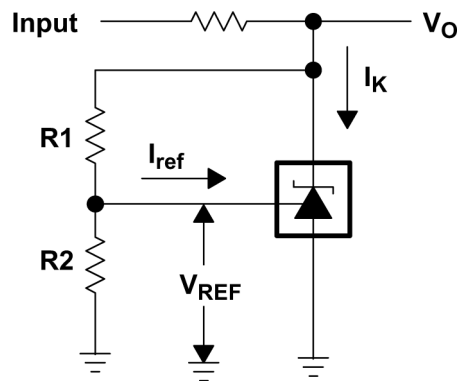

Figure 6-2. Test Circuit for $v_{KA} > V_{REF}$, $V_O = V_{KA} = V_{REF} \times (1 + R1/R2) + I_{ref} \times R1$
(3) The dynamic impedance is defined as $|z_{ka}| = \frac{\Delta V_{KA}}{\Delta I_K}$. When the device is operating with two external resistors (see Figure 6-2), the
- (3) Full temperature ranges are –40°C to 125°C for TLV431Q, –40°C to 85°C for TLV431I, and 0°C to 70°C for TLV431C.
- (4) dynamic impedance is defined as $|z_{ka}| = \frac{\Delta V_{KA}}{\Delta I_K}$. When the device is operating with two external resistors (see Figure 6-2), the total